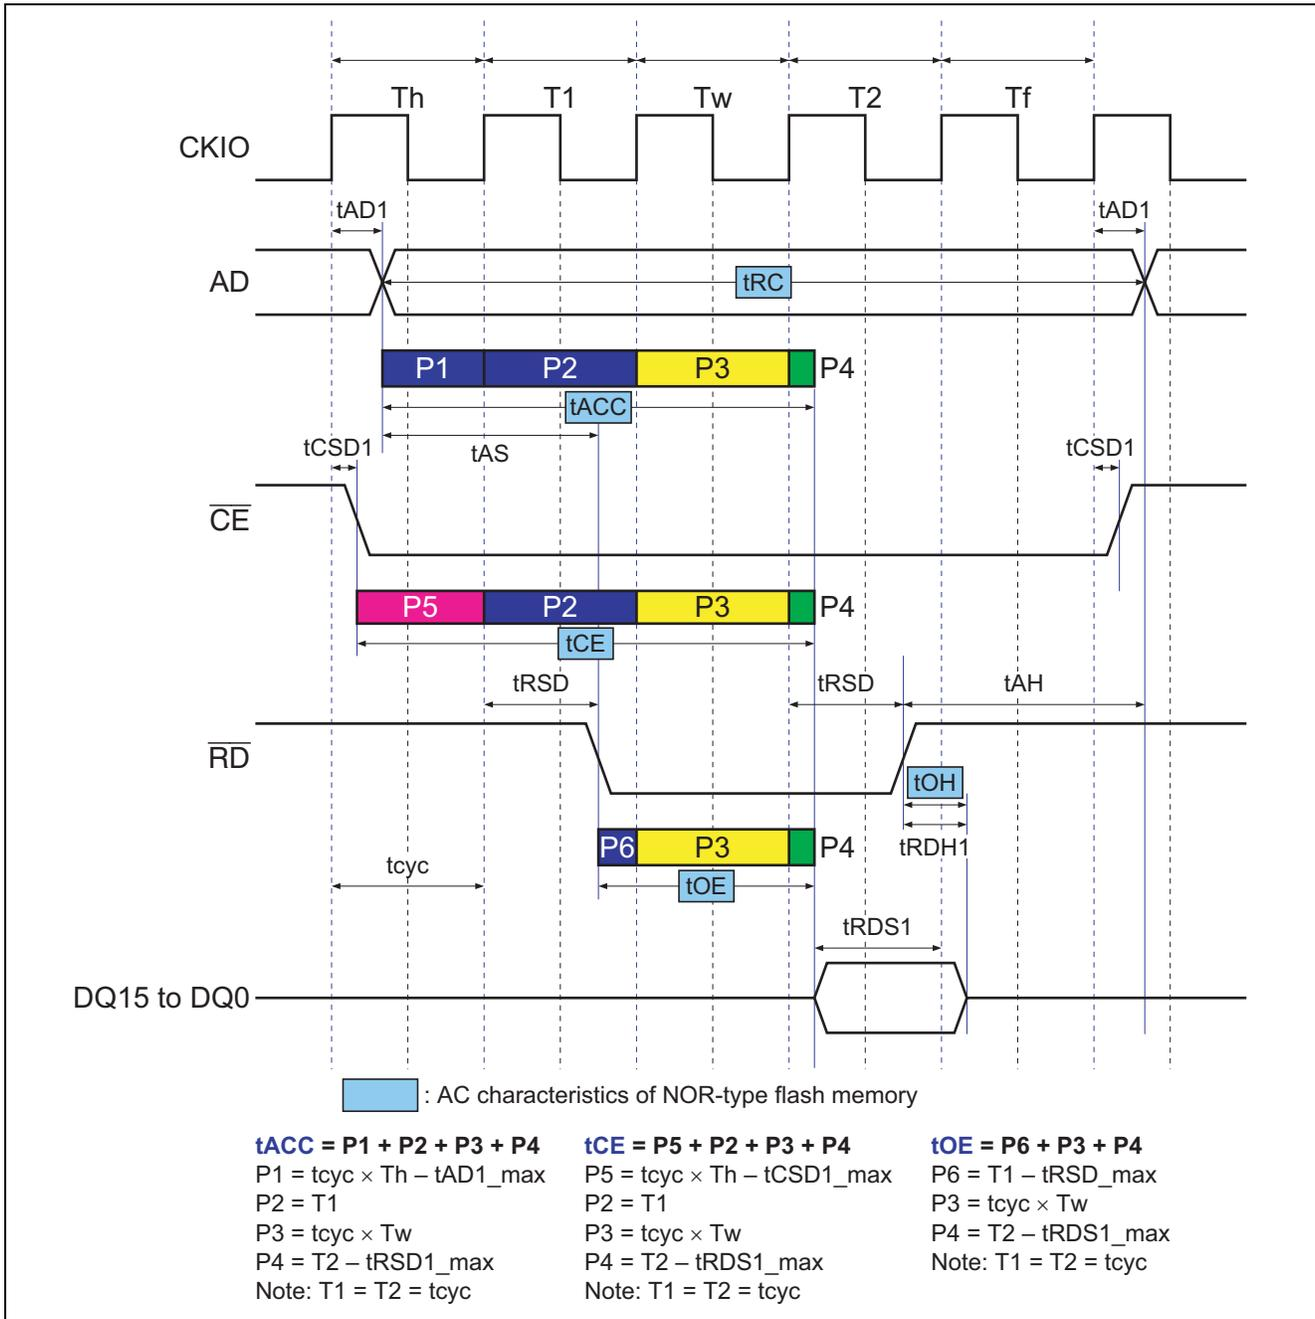

Figure 8 Read Timing for NOR Flash Memory When SW = 1, WR = 1, and HW = 1 (1)
tRC (read cycle time) of NOR flash memory (figure 8)
- tACC of NOR flash memory (address access time) (figure 8)
- tCE of NOR flash memory (\overline{CE} access time) (figure 8)
- tOE of NOR flash memory (\overline{OE} access time) (figure 8)
- tOH of NOR flash memory (retention time from data output in the previous-cycle) (figure 8)
Figure 8 shows read timing 1 for NOR flash memory (1).